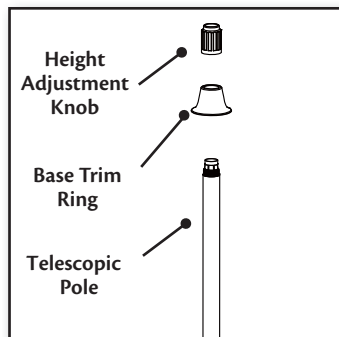

Figure 6
1. Remove the height adjustment knob from the telescopic pole by turning it counter clockwise. Slide the base trim ring onto the pole. Reinstall the height adjustment knob Figure 6.